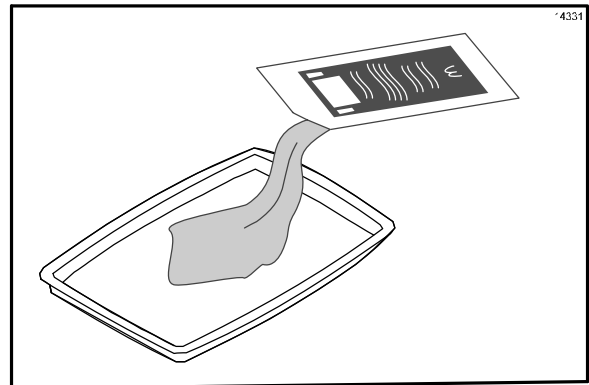

Figure 41
- Open one packet of **McD Hi-Temp Grill Cleaner (HTGC)**. Empty the contents into a clean entrée base or stainless steel pan. (See Figure 41.)